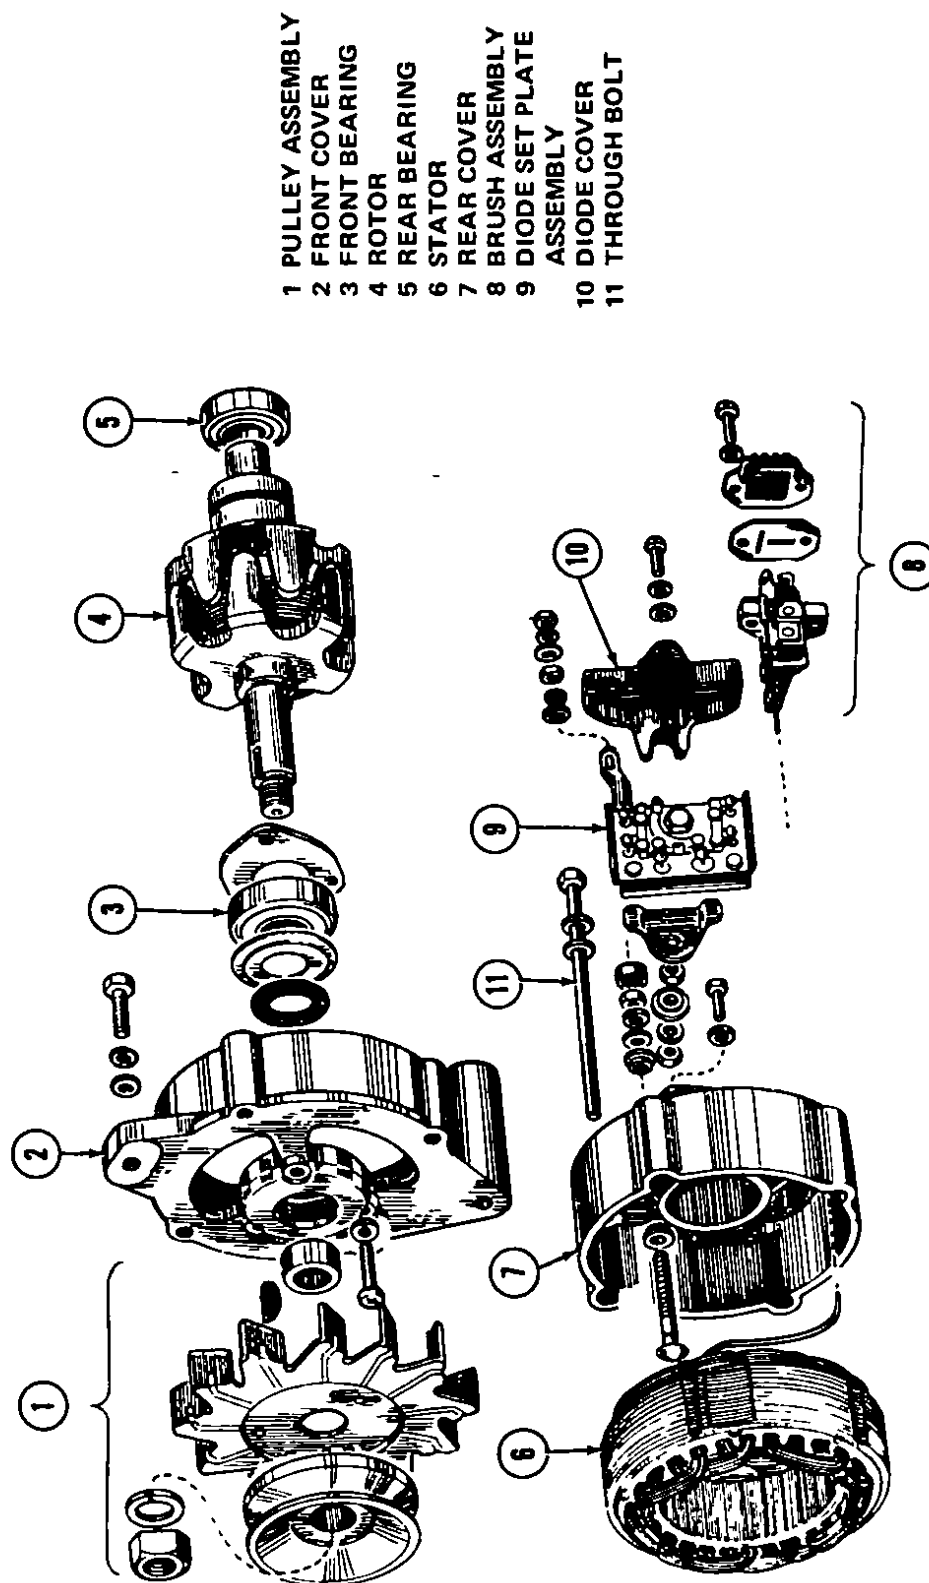

Fig 61 Typical Datsun alternator
- 5 Remove the alternator mounting bolt and remove the alternator, Fig 61